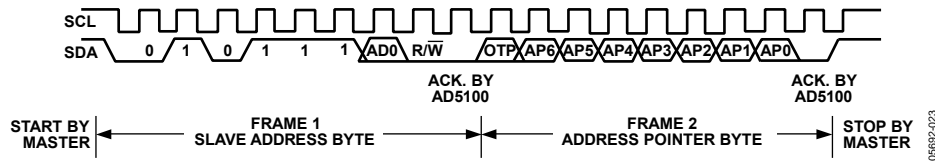
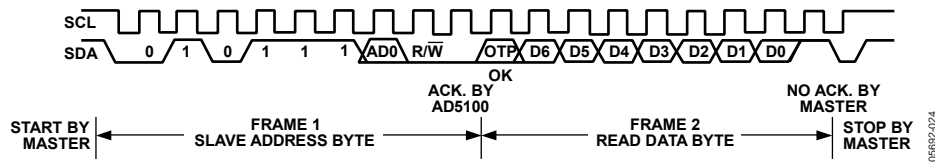

Figure 23. Dummy Write to Set Proper Address Pointer
Figure 24. Read Data from the Address Pointer Register
- If the AD5100 address pointer register value is unknown or not at the desired value, it is first necessary to set it to the correct value before data can be read from the desired data register. This is done by performing a write to the AD5100, but only a value containing the register address is sent because data is not to be written to the register. This is shown in Figure 23. A read operation is then performed consisting of the serial bus address, R/W bit set to 1, followed by the data byte from the data register. This is shown in Figure 24.